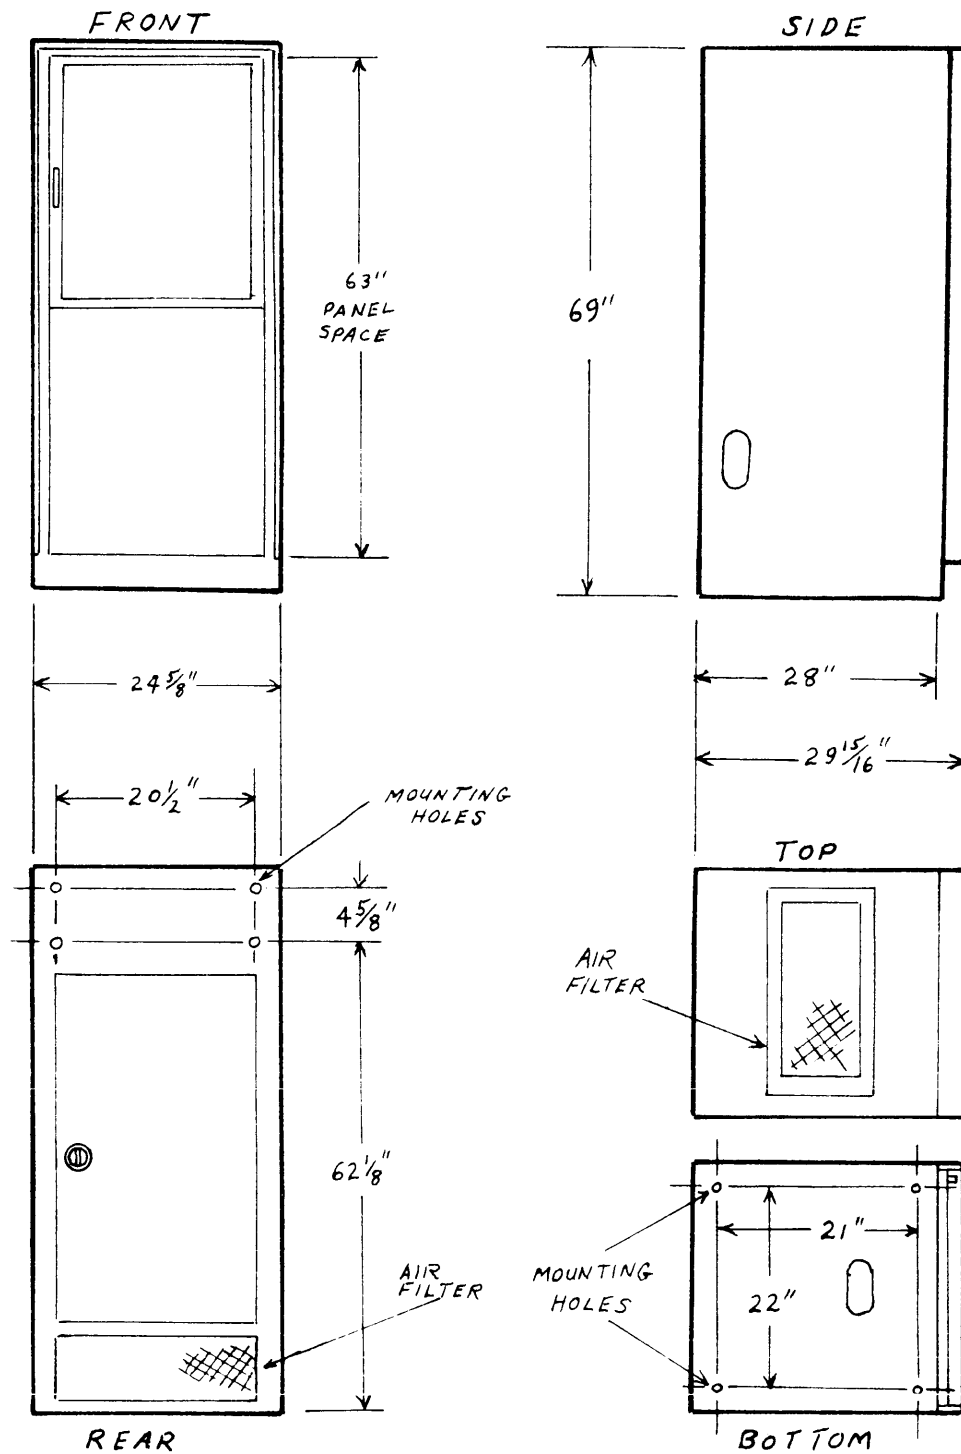

Figure 1. Dimensional Outline, RAK 44.
RAK-44 is a single, standard relay rack-type electrical equipment cabinet that provides an enclosure for the modular units constituting the LF/MF receiver system. Cabling for the units and line filter FL1001 are supplied with the cabinet; cable access openings with removable cover plates are located on both sides and bottom of the cabinet. RAK-44 is provided with three hinged doors: a solid door for the front lower section, a glass door for the front upper section, and a full length rear solid door (see figure 1). The cabinet acts as a shield to prevent radiation leakage. Two permanent-type washable air filters are fitted in the cabinet, one at the rear bottom and one on the roof. Line filter FL1001, mounted inside the cabinet, is a low pass filter that prevents the entry of r-f signals via the a-c power line. Refer to table 1 for mechanical and electrical characteristics.
a. MECHANICAL INSTALLATION. RAK-44 is shipped with loudspeaker panel LSP, power control panel DCP, and blank panels mounted. The cabinet should be positioned to allow opening of front and rear doors (approximately two-foot clearances are needed front and rear). The cabinet may be mounted on the floor, or on wood or metal stringers. Four 23/32 inch holes in the base of the cabinet are provided to facilitate anchoring; four 5/16 inch holes in the upper rear wall of the cabinet facilitate additional bracing. (refer to figure 1.)